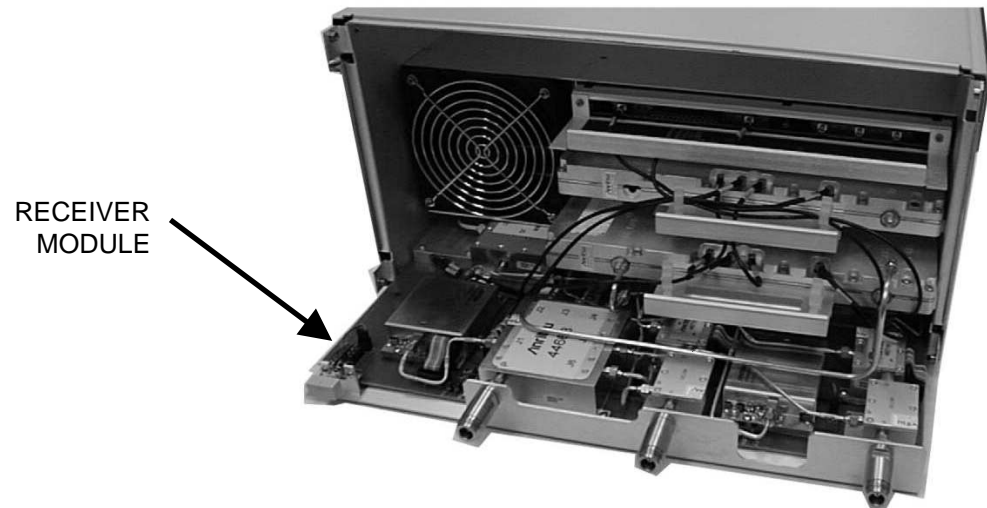

Figure 7-12. Receiver Module Removal
5. Carefully pull the receiver module straight out from the front of the instrument (Figure 7-12).